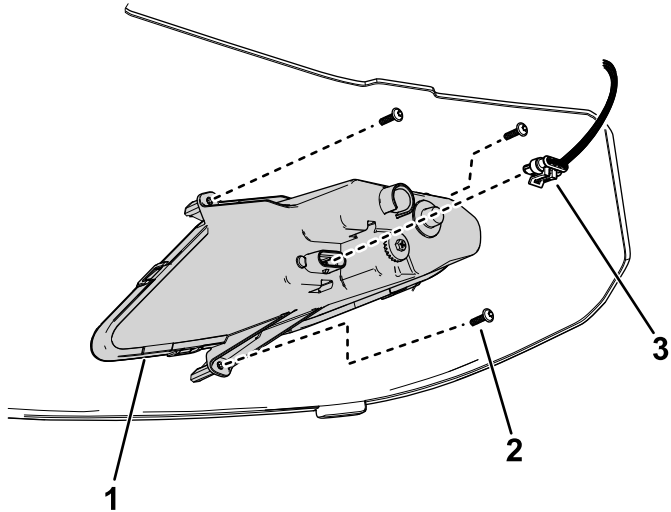

Figure 41
3. Disconnect the wire-harness connector from the headlight connector (Figure 41).
6. Connect the wire-harness connector to the headlight connector (Figure 41).